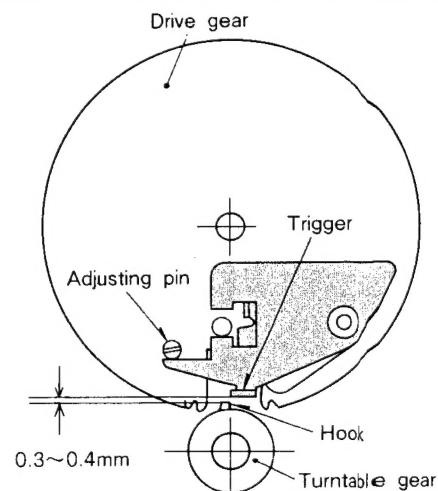

Fig. 7
- (a) Adjust the gap between the turntable gear hook (Fig. 7) and the ratchet trigger for 0.3–0.4 mm (0.012–0.015 in.) by turning the adjusting pin.